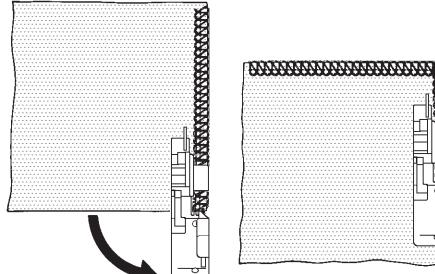

Fig. 1
3. Turn the fabric, lower the presser foot and begin stitching in the new direction. Fig. 1.
1. Snap the detachable cord guide, in your accessory set onto the thread guide pole (Fig. 1).
2. Place a *¢filler¢* cord, such as a crochet cotton, gimp, wool, knitting yarn, or shirring elastic at the rear of the machine spool pin. Pass the cord through the cord guides (1) and (2) and then through the left needle thread guide (3). See Fig. 1.